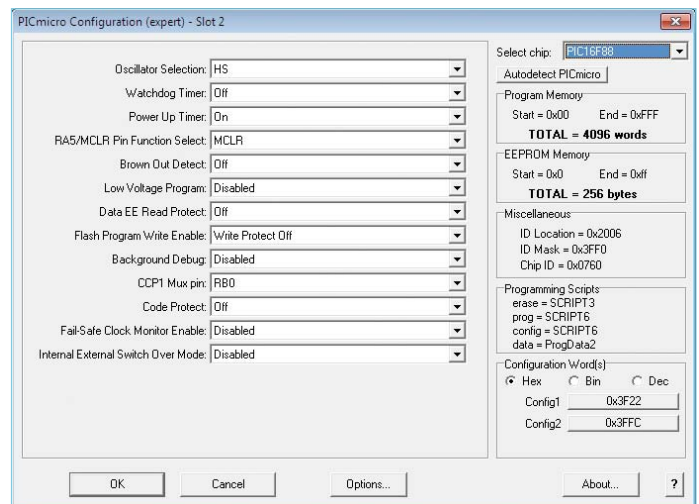

Figure 3. Flowcode method of configuring TMR0 for interrupts.
Step 3. With the receiver part working it was possible to proceed with the actual dimmer part of the software. This uses the TMR0 interrupt on overflow, and it's used for zero crossing detection as well as a timer to define the triac firing instant. This is done by means of a Flowcode interrupt component to enable the TMR0 interrupt, choosing TMR0 as interrupt source, TOCKI as clock source, the Low to High transition as the clock, and setting the prescaler to 1:1; see the screendump in **Figure 3**. Using a C code component to preset the TMR0 to 0xFF will enable the zero crossing detector as an overflow will occur at the first zero crossing of the AC line voltage. This in turn will call the macro called 'Fire_triac' containing a decision component at the start that decides which way to branch in the program. If Enable_trigger = 1 the triac will be fired, Enable_trigger is reset to zero, and TMR0 is ready to overflow on the next zero crossing. If Enable_trigger = 0 TMR0 is loaded with a value so that it will produce an overflow when the triac is due to fire.
Now the program goes into 'loop forever', this is where the actual DMX data byte receiving is performed (one of Apple's head offices in Cupertino CA, is at the address: 1, *Infinite Loop*). First, the program has to detect a 'break' on the DMX line. This is done in the outer loop where frame errors on received bytes are detected. Once bytes without frame errors are received the next thing to test for is a Start of Frame (SOF) byte, which for dimmer modules equates to 0x00h. If it was a SOF byte, then the next thing to do is count the received bytes until the selected DMX address is reached, then copy the received DMX data to the register used in the TMR0 macro, that's it! A part of this routine is shown in **Figure 3**.